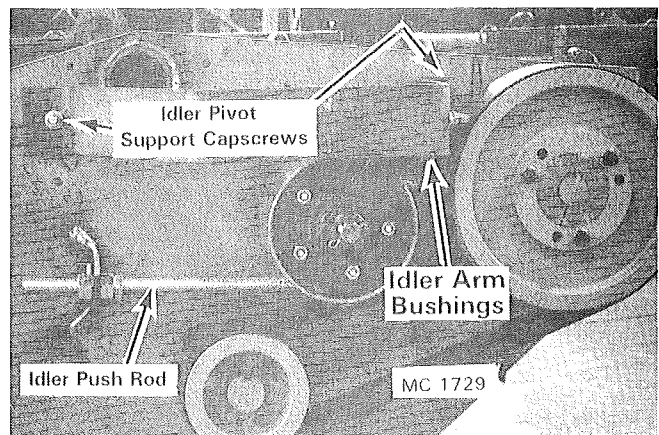

Figure 24 – Two on All Models
1. Idler arm bushings. One fitting behind the belt guard cover, see Figure 24 (two on Model 2206 & 2408).